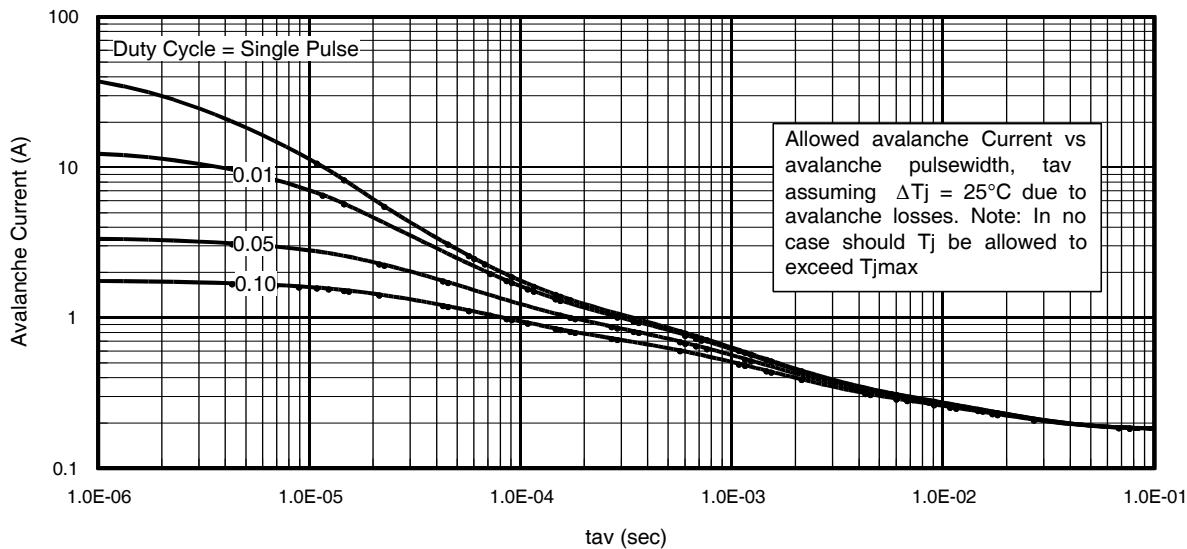

Fig 14. Typical Avalanche Current Vs. Pulsewidth
- ① Repetitive rating; pulse width limited by max. junction temperature.
② Starting $T_J = 25^\circ\text{C}$, $L = 1.78\text{mH}$, $R_G = 25\Omega$, $I_{\text{AS}} = 12\text{A}$.
③ Pulse width $\leq 400\mu\text{s}$; duty cycle $\leq 2\%$.
④ R_θ is measured at T_J of approximately 90°C .
⑤ Limited by $T_{j\text{max}}$. See Figs. 14, 15, 17a, 17b for repetitive avalanche information
Notes on Repetitive Avalanche Curves , Figures 14, 15:
7. $\Delta T = \text{Allowable rise in junction temperature, not to exceed } T_{jmax} \text{ (assumed as } 25^\circ\text{C in Figure 14, 15).}$